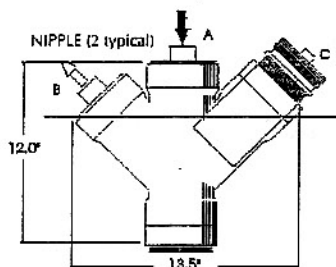

Figure 2.
2. Next, disconnect existing "pea trap" or, using a saw, cut out discharge line from sink basin allowing Biotrap to sit firmly on the floor. See Figure 2 for detailed dimensional information.